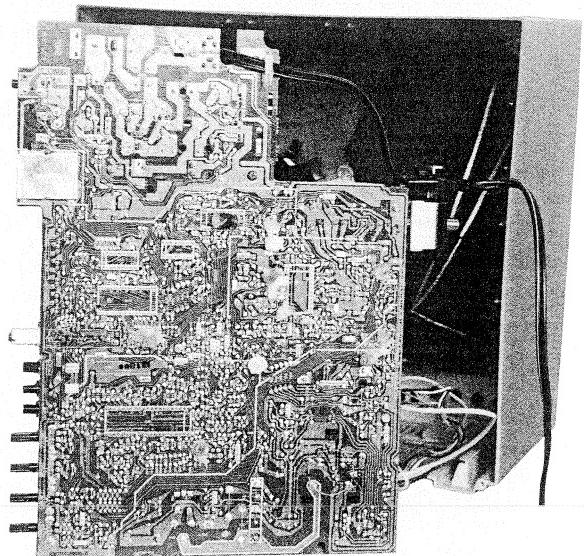

Fig. 2
- 2. During component checking or replacement, place the chassis as shown in Fig. 2.
- \* Fig. 2 is an example of placing the chassis.